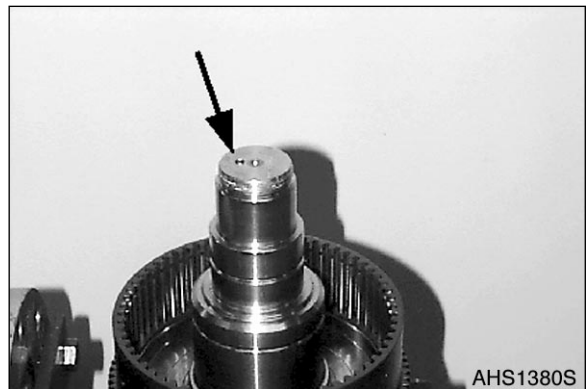

Figure 178
1. Lift plate carrier, with the K4-side facing downward, into the clamping ring (S) and secure it. Now, tilt plate carrier 180°.
2. Insert both roll pins (6x24 and 3.5x24) flush-mounted into the end face-side bore of the plate carrier, see Arrow in Figure 178.